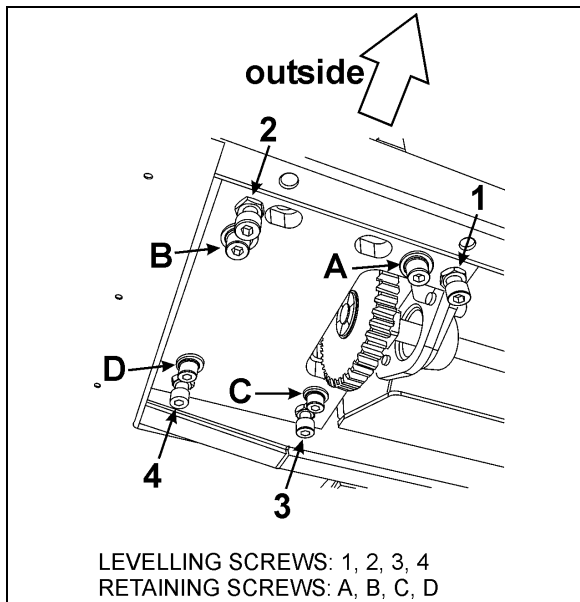
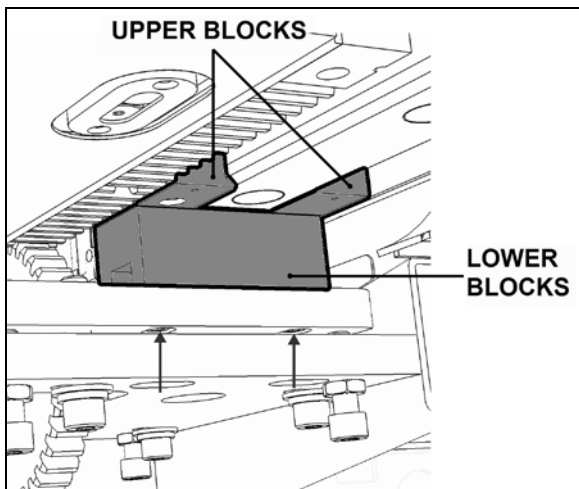

FIGURE 26: SLIDE-OUT LEVELING
FIGURE 29: ACETAL PLASTIC BLOCKS
4. From the mechanism access panel, remove the retaining screws A, B, C & D (see Figure 26).
Leveling of the slide-out is done by changing the linear bearing support plate height using the leveling screws 1, 2, 3, 4 (Figure 26). When proper level is attained, the retaining screws A, B, C & D maintain the support plate seated on the leveling screws. Also, the retaining screws prevent the slide-out from tipping inside the vehicle when it is retracted.
The slide-out is slightly tilted. When retracting, the upper "in limit" stoppers touch first the vehicle structure, followed by the lower "in limit" stoppers. Tilt adjustment is done by changing the linear bearing support plate inclination using the leveling screws 1 & 2 as pivot and 3 to adjust the angle (Figure 26).
2. From under the support plate, remove the acetal plastic block mounting screws (see the oblong holes on Figure 26 and arrows, Figure 29).